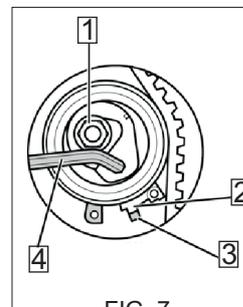

FIG. 7
- Turn the tensioner anticlockwise with allen key (4) until mobile indicator (2) is aligned with the groove (3) [FIG. 7].
- Tighten tensioner nut (1) [FIG. 7].